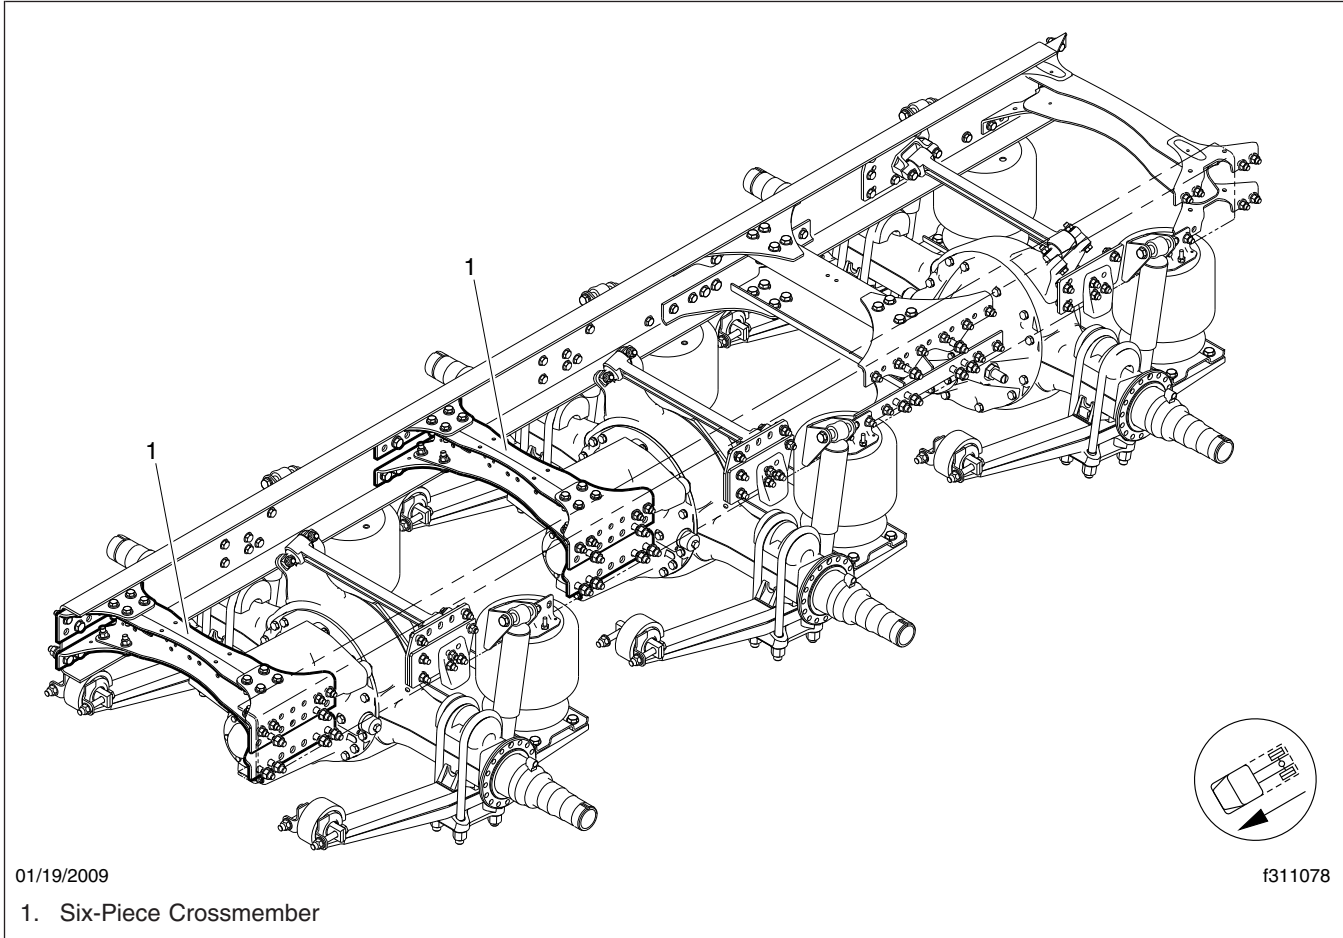

Fig. 3, Tridem Axle Installation
- AirLiner Tridem Axle Suspension Six-Piece Mid and Forward Crossmember, shown in Fig. 3.